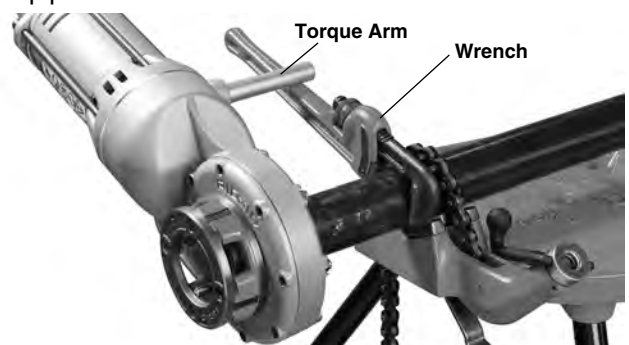

Figure 7 – Threading Using Pipe Wrench as a Support Arm
2. Place the RIDGID 12", 14" or 18" Heavy Duty Pipe Wrench approximately 7" (175 mm) from the end of the pipe (see Figure 7). Test to confirm the wrench is secure, and will not fall or move.